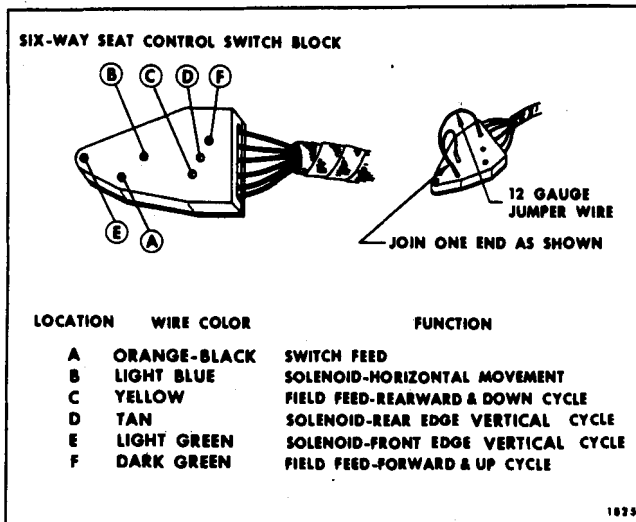

Fig. 15-44-Six-Way Seat Switch Block in Seat Side Panel
to the switch block. If a switch is not available, a three-way jumper wire can be made to perform the switch function. The jumper wire and the switch locations to be connected to obtain a specific movement of the seat are shown in Figures 15-44 and 15-45. If a jumper wire is used, letter the locations on the switch block as indicated in the illustration. Details outlining the making and use of the jumper wire follow the checking procedure.
To make jumper wire, obtain two pieces of No. 12 gauge wire, each 4-1/2" long, join one end of each wire as shown in Figure 15-44. The joined end can be inserted in the feed location in the switch block; one of the remaining ends can be inserted into one of the field locations in the switch block; the other end can be inserted into one of the solenoid locations.
1. On bodies with switch in seat side panel (Fig. 15-44) proceed as follows: